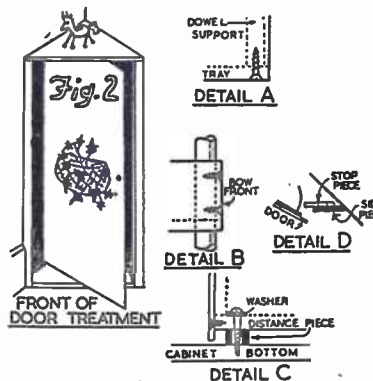
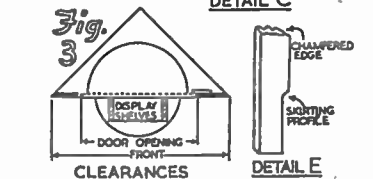

Fig. 2
Fig. 3
Care must be taken with clearances (see Fig. 3). The revolving door must have room to operate without fouling inside the triangular shell. Similarly, the hinging mechanism shown at (C) must of necessity be set back a little from the diameter line of the semi-circle. Also, if you decide to use some front décor instead of having the front of the door plain, such as a plant-pot holder shown in Fig. 2, it must not protrude more than will allow it safely to pass with clearance into the triangular shell. Particularly is this so if display shelves are fitted to the front, as shown in Fig. 3.